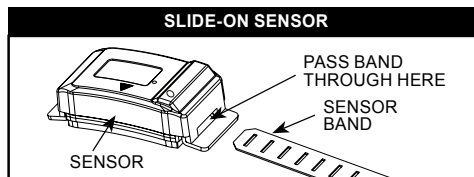

Figure 3: Feed band through sensor
3. Pass the end of the band through the sensor and slide sensor to within a few inches of the band clamp screw. See Figure 3.